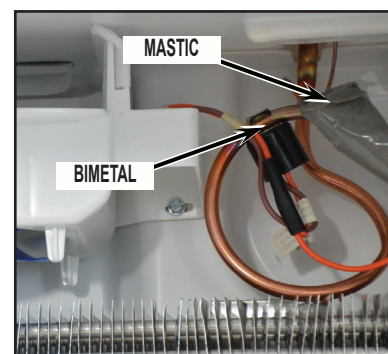

FIGURE 10
5. Remove noise mastic tape to access bimetal before installing. Unclip the bimetal from the suction line. See *Figure 10*.